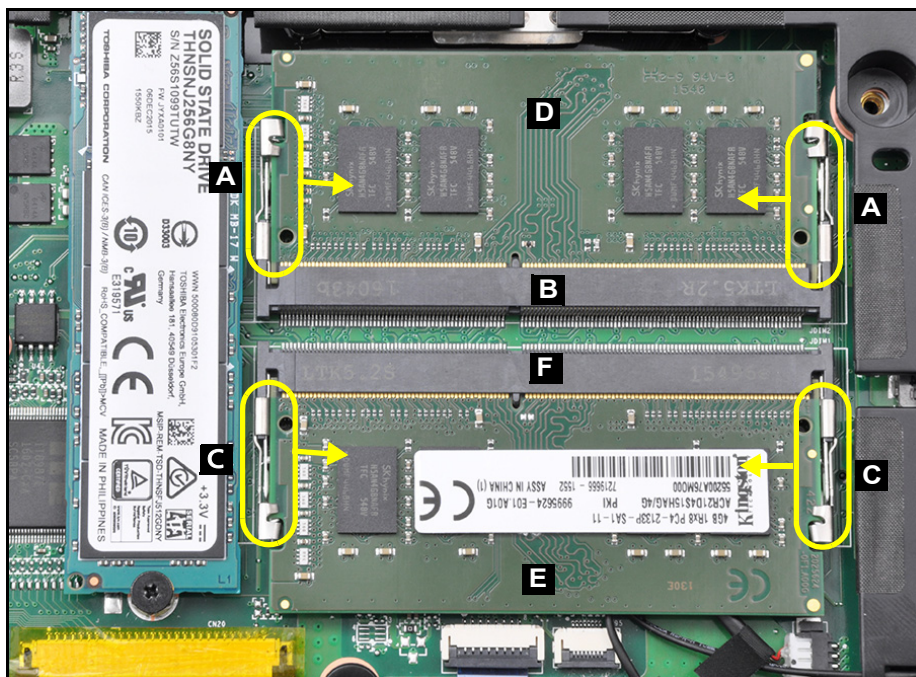

Figure 3-115. Replacing the DIMM
1. Insert the DIMM (E) to the mainboard connector (F) (Figure 3-115).
2. Press down on the DIMM (E) until the module clips (C) lock into position as shown in Figure 3-115.
3. Insert the DIMM (D) to the mainboard connector (B) (Figure 3-115).
4. Press down on the DIMM (D) until the module clips (A) lock into position as shown in Figure 3-115.